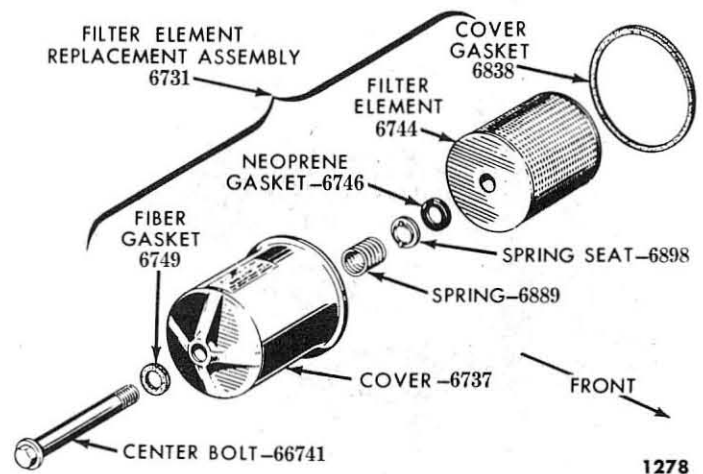

Fig. 23—Oil Filter Disassembled
(2) **DISASSEMBLY.** Remove the filter element, gasket, spring seat, and spring from the housing. Remove the center bolt and fiber gasket. The filter is shown disassembled in fig. 23.